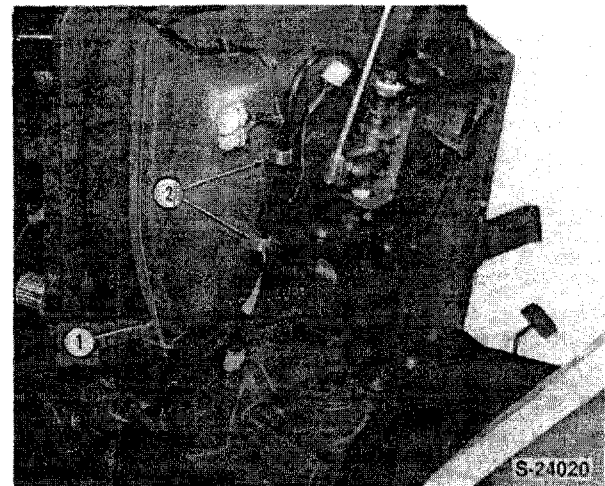

Figure 15
14. Remove the fuel tank retaining band (1), Figure 15.
15. Release the wiring harness straps and remove the fuel tank from the tractor, Figure 15.